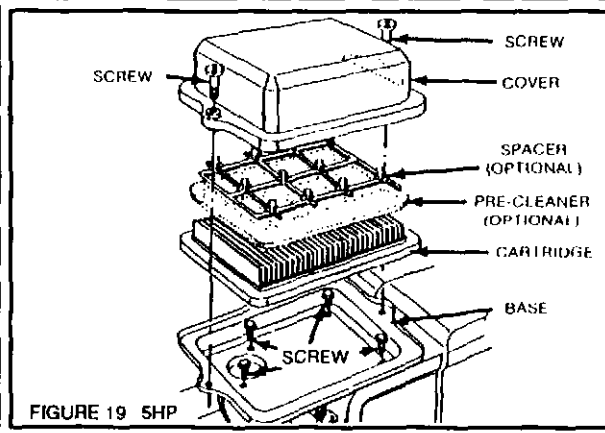

FIGURE 19 5HP
1. Loosen screws and tilt cover as illustrated. (Fig. 19)